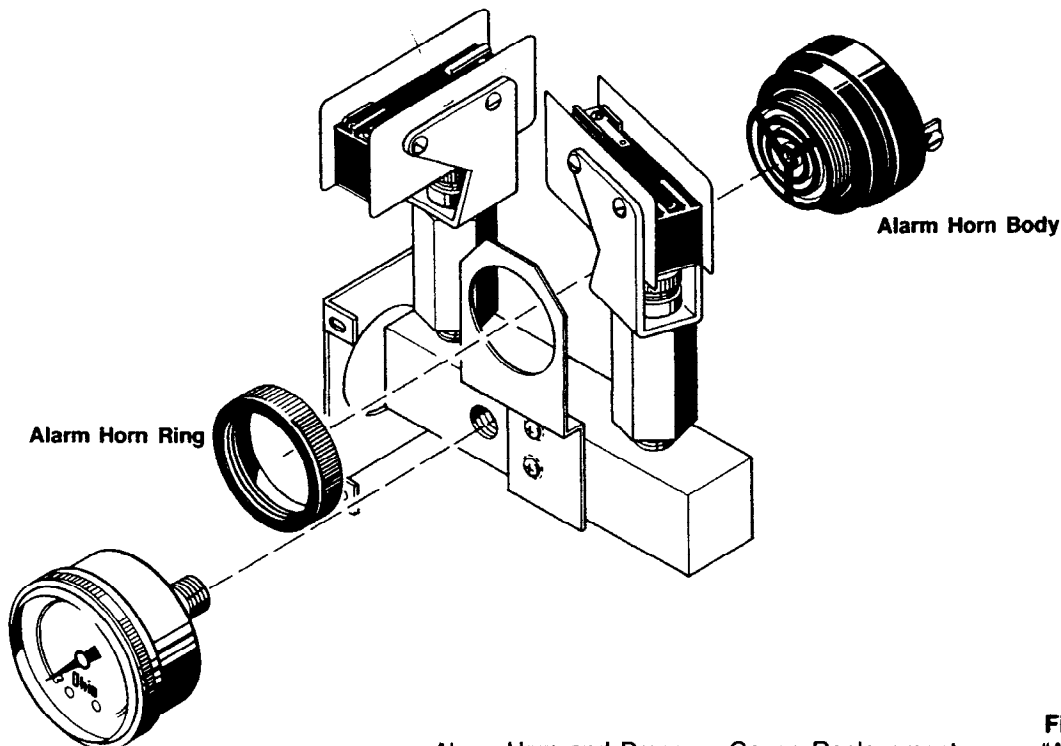

Figure 4-6
4. To remove alarm horn from the bracket, hold the ring in place and turn the body of the alarm horn counterclockwise (CCW) (See Figure 4-6).
(See Figure 4-6):
5. Being careful not to strain any wires, rotate the manifold assembly around to expose the pressure gauge. Use a 7/16 in. wrench to remove the pressure gauge from the manifold (See Figure 4-6).